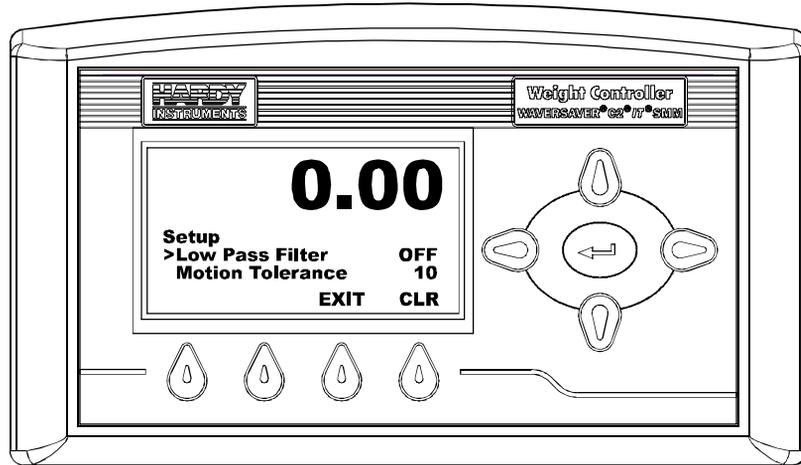

FIG. 74 SETUP MENU/SETTING LOW PASS FILTER
- Step 1. Press the Down Arrow button until the cursor is in front of Low Pass Filter. (See Fig. 74) The state of the low pass filter is displayed.
The number entered in Figure 74 is for illustration purposes only, yours will vary depending on your application.